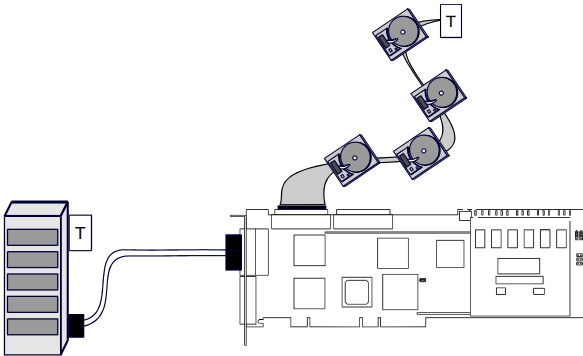

Figure 3. Connecting Internal and External Drives
6. Connect a wide, high-density, 68-pin SCSI ribbon cable to the internal SCSI connectors on the eXtremeRAID controller and connect the other cable connectors to any internal SCSI drives as required (see Figure 3).
7. Connect an active terminator to the end of the SCSI ribbon cable at the end farthest from the controller (see Figure 3).
8. Connect a wide, round, 68-pin Very High Density Connector Interface (VHDCI) cable to the external SCSI connector on the eXtremeRAID controller and connect the other end of the cable to an external drive cabinet as required (see Figure 3). External drive cabinets usually have termination built into the end of the SCSI bus. See the documentation that comes with your drive cabinet to be sure this is the case. If not, use an active terminator at the end of the bus.